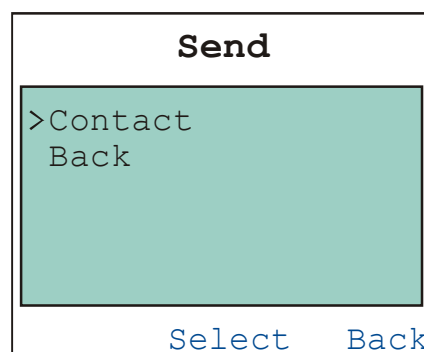

Figure 26. Send Message Screen.
- 1 When the message has been selected/created and is ready to be sent, press the 'Select' key to display the Send screen (see **Figure 26** below).